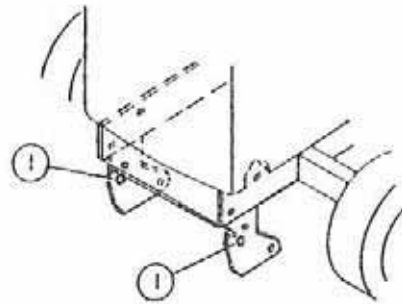

FIGURE 5
**NOTE:** On lawn tractor: if you do not have a  $13/16$ " dia. hole on front frame brackets (fig. 5, item 1), replace the brackets with the ones supplied in kit (page 12, ref. 14 and 19).
- b) Lift the front portion of subframe between the tractor mounting plates (fig. 5, item 1) and hold in place with  $3/4" \times 13.50$ " pin. Secure the pin with 3mm hair pins.